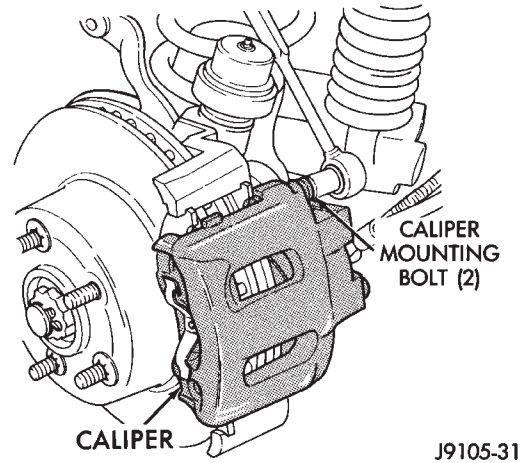

Fig. 28 Caliper Mounting Bolts
- (6) Remove caliper mounting bolts (Fig. 28).